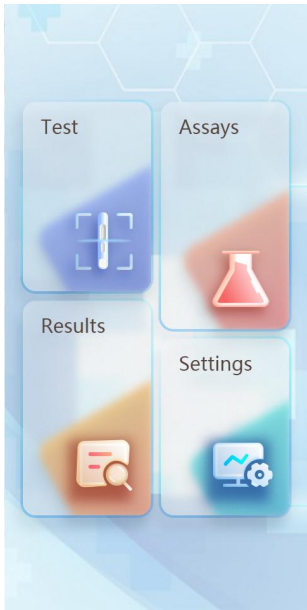

Figure 6 Main interface
1. Login successfully and enter the main interface (Figure 6 below).